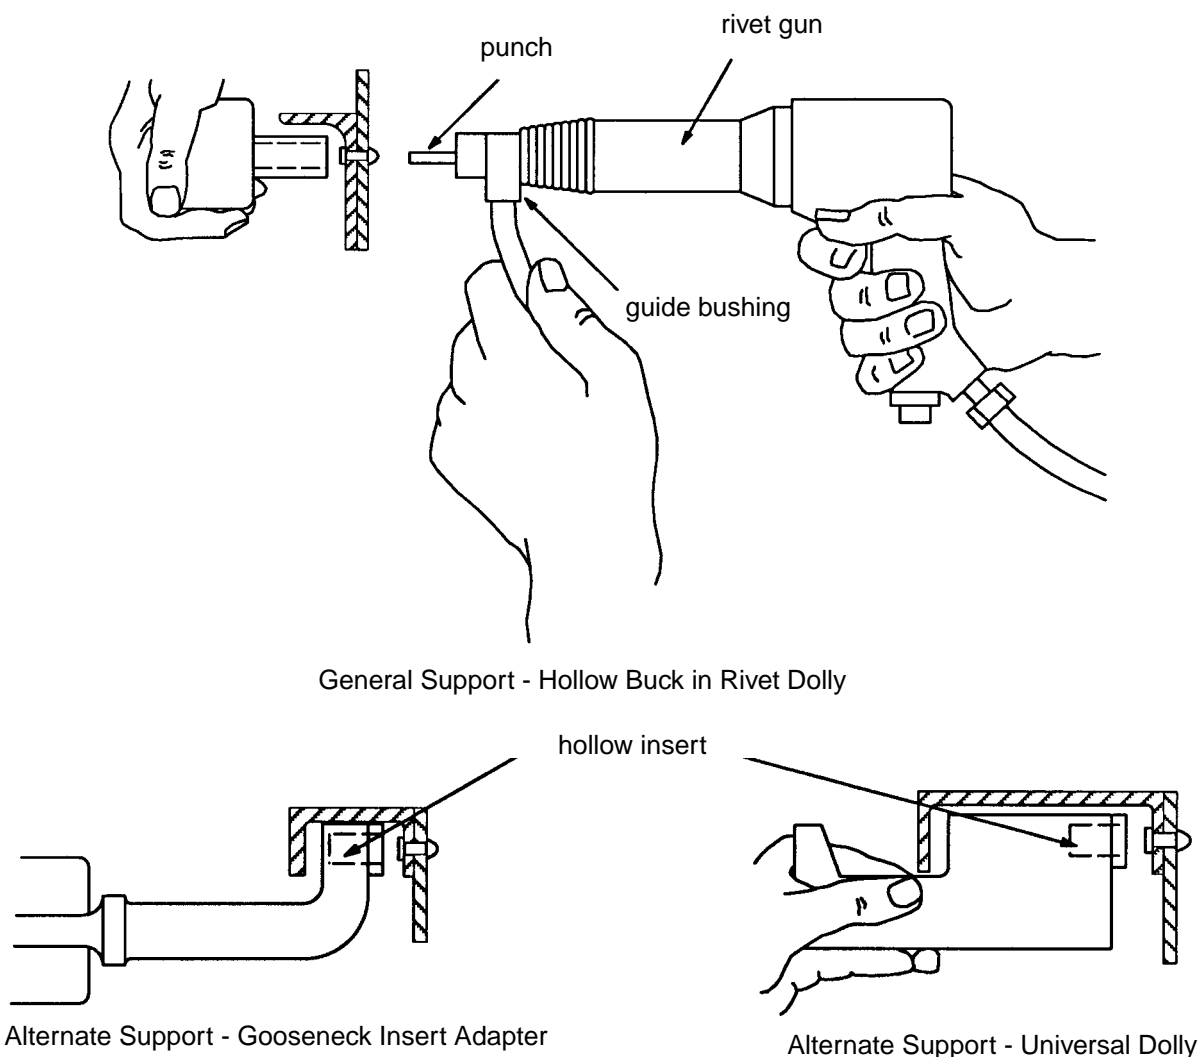

Figure 18 - Punch-Out Removal of Installed Fasteners
5.9.1.1 The preferred method of removing installed fasteners is the punch-out method as follows (see Figure 18):